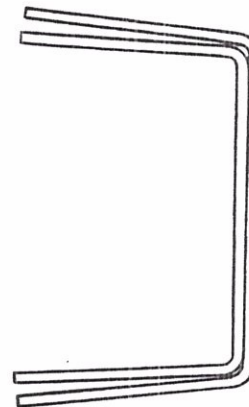
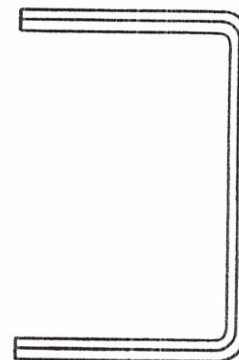

Figure 2A
Figure 2B
3. Now it's time to recondition your frame rails. Your frame is two layers thick in the front area. During the past 40 some years, rust forms between the layers of the frame rail flanges and swells, causing them to separate. This causes the rail flanges to actually open up, as in Figure 2A. Your rails will probably look similar to this. It is necessary to squeeze the two layers back together, using a vice-grips or hammer and block. Then, using a large C-clamp, bend both flanges back together so the rail is square again. (See Figure 2B.) It does not need to be perfect for the entire length, but it should be close in the areas where the new crossmember and spring towers mount. The better you can make the rails in this step, the easier it will be to weld in the new components. Also, grind off and weld in the rivets on the top of the frame rails.